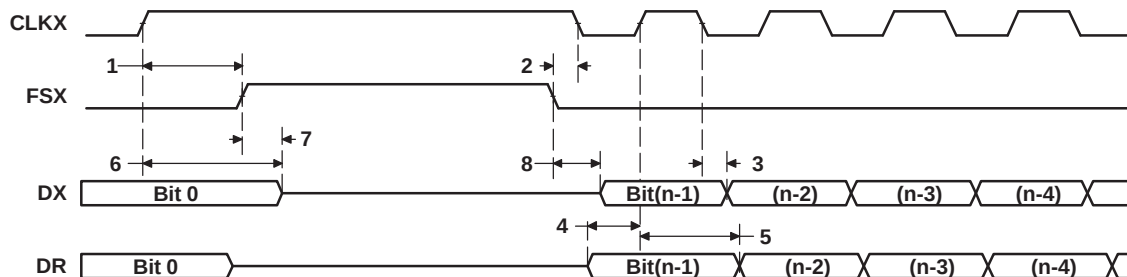

**Figure 6-33. McBSP Timing as SPI Master or Slave: CLKSTP = 10b, CLKXP = 1**
**(see Figure 6-33)**
- (1) P = SYSCLK3 period in ns. For example, when running parts at 600 MHz, use P = 10 ns.
- (2) For all SPI Slave modes, the rate of the internal clock CLKG must be at least 8 times faster than that of the SPI data rate. User should program sample rate generator to achieve maximum CLKG by setting CLKSM = CLKGDV = 1.
**Master or Slave: CLKSTP = 10b, CLKXP = 1(1)(2) (see Figure 6-33)**